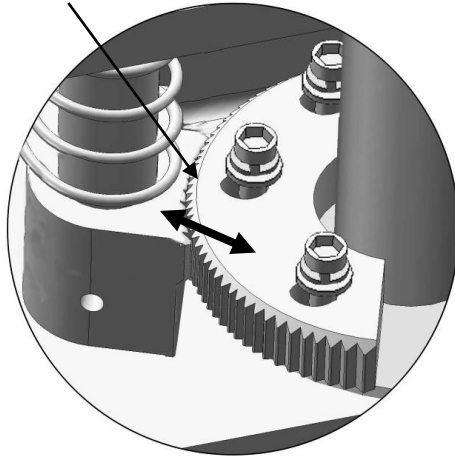

Fig. 25
3. Adjust the arm lock as arrow direction (**See Fig. 25**).